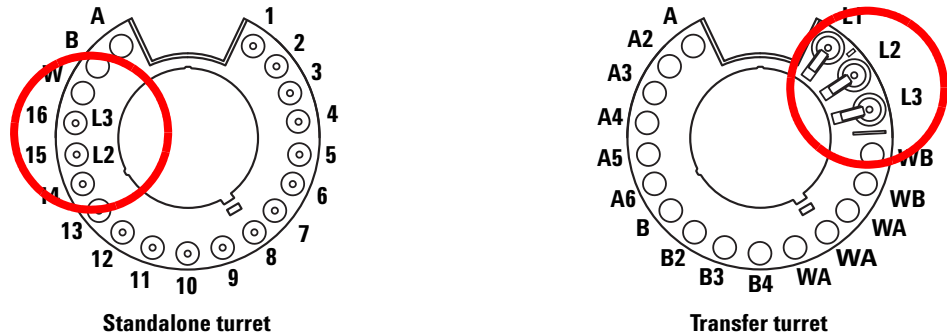

Figure 54 Turret vial locations for sandwich injections
When loading vials for sandwich injections, layer 1 (L1) can be placed in any turret position 1-14 if using a standalone turret, or in any tray location 1-150 if using a transfer turret with sample tray. The vials for layer 2 (L2) and layer 3 (L3) must be placed in turret positions **L2** and **L3** (Figure 54), respectively.
- 3 Place the solvent B vial (L3) in turret position **L3**. Refer to Figure 54 on page 183 for turret position information.